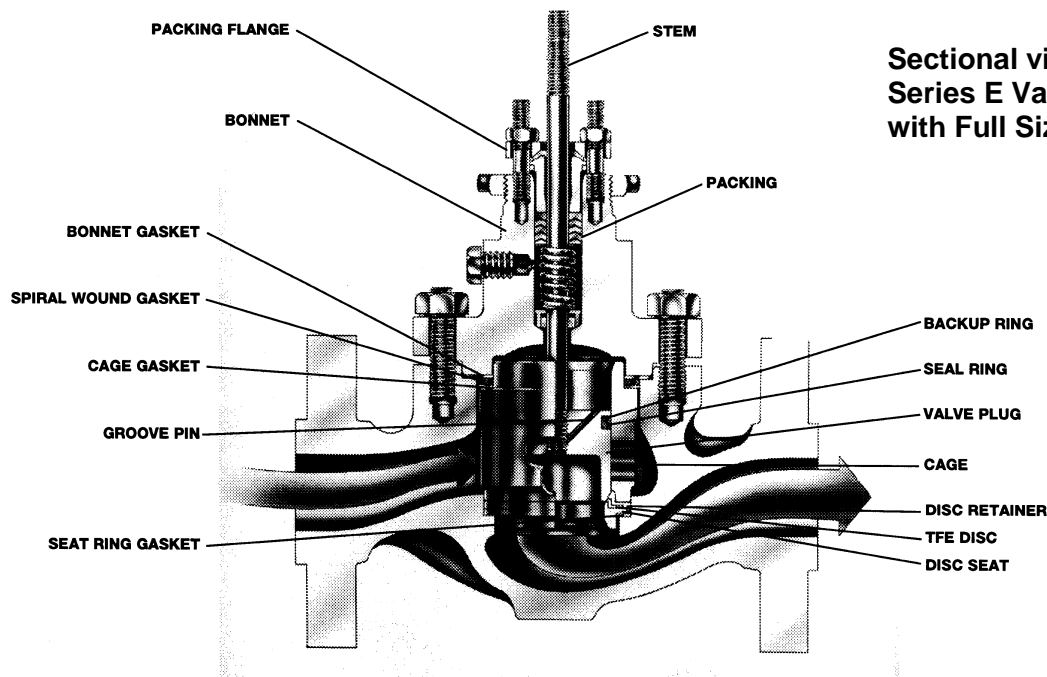

Figure 2:
*Except where indicated, refer to Figure 2 for part descriptions used in the following procedure.*
*Except where indicated refer to Figure 2 for part descriptions used in the following procedure.*